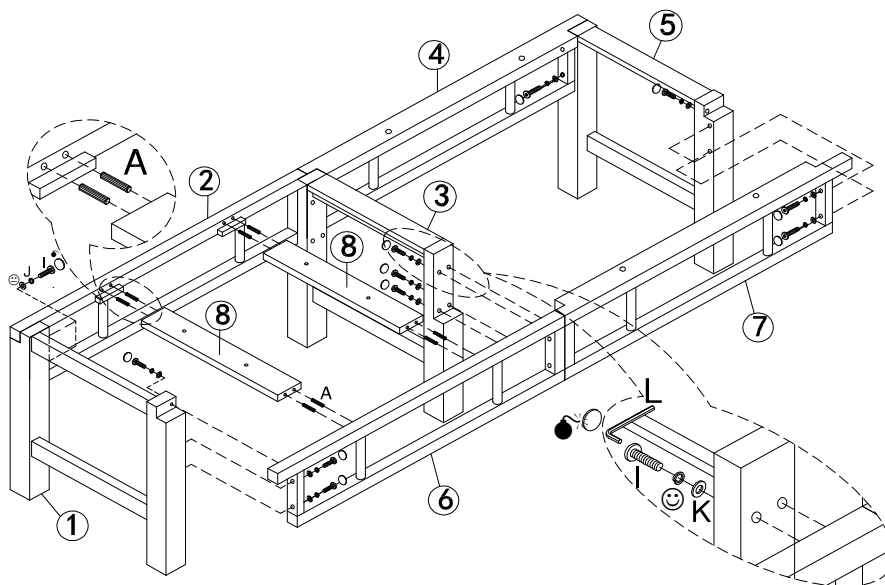
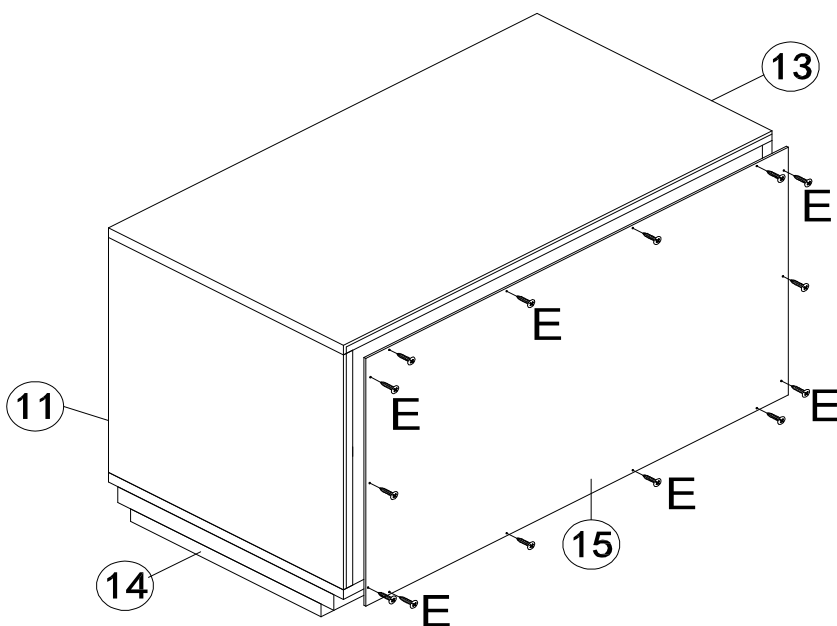

Figure 3
Figure 6
Attach assembled unit from Figure 6 to assembled unit from Figure 3 by inserting Wood Dowels (A), Bolts (I), Spring Washers (J), and Flat Washers (K).